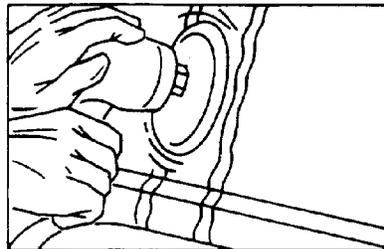

FIGURE 10—SHAPE SANDING REPAIR
**5.4 Sanding Repair Material**—Shape sand repair material with grade 80 discs using a random orbital (R/O) sander to original contour. Fill pin holes with a suitable 2-part (2K) glazing putty. (Do not use a flexible putty.) Sand glazing putty with grade 180 discs, clean, and apply a 2-part (2K) urethane primer (according to manufacturer's instructions). Figure 10. After drying, finish sanding with grade 240 to 320 (following paint company's recommendations) and apply color coats.